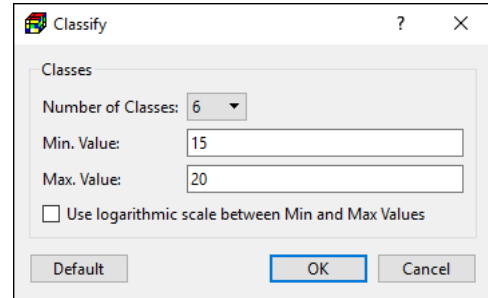

Figure 120. The Classify dialog box
- o **Classify:** Click this button open the Classify dialog box (Figure 120) that is used to define the range of values and number of classes. If *Min. Value* and *Max. Value* are both positive, the option of *Use logarithmic scale between Min and Max Values* is available. Click the Default button to reset *Min. Value and Max. Value* to the values found in the data of the current layer.